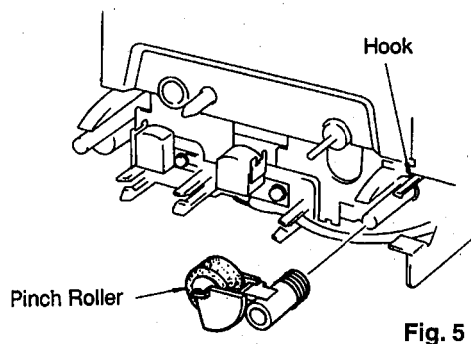

Fig. 5
- a. Detach the hook in Fig. 5 and remove the Pinch Roller.